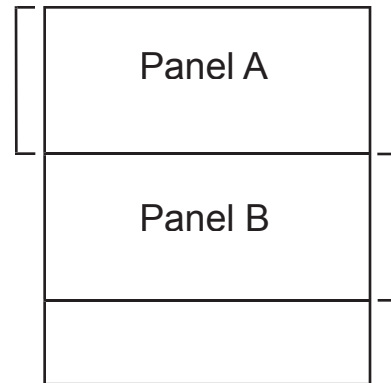

Fig. 6
11. If the fold is skewed use the skew adjustment knob to make corrections (Fig. 6).